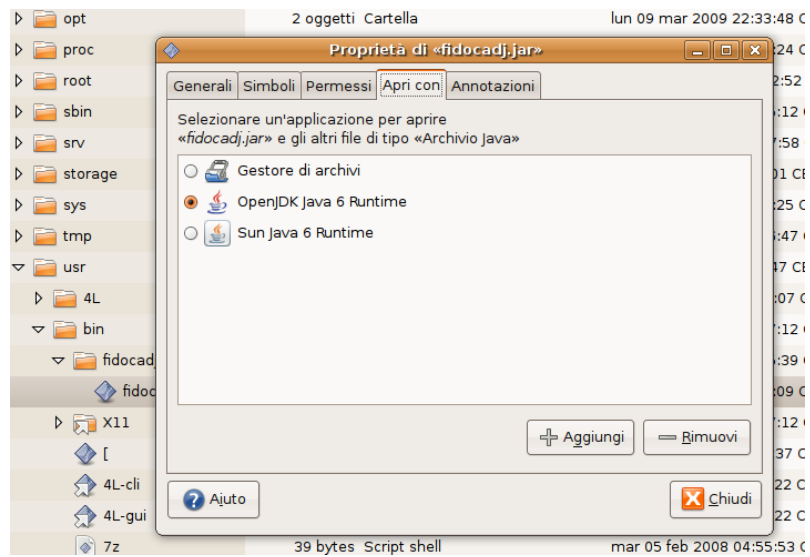

Figure A.2.: Set the execution with the Java virtual machine, on Ubuntu 8.04.
- We can select the tab “Open as” and select “OpenJDK Java 6 Runtime” or “Sun Java 6 Runtime”, as it can be seen in figure A.2.